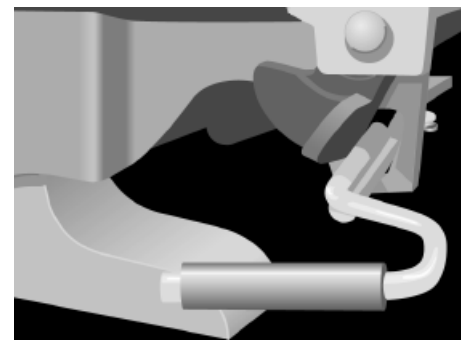

Figure 20
3. **OPEN POSITION (Figure 20)** - With the operating rod in the lockset position, the trailer may be uncoupled. Release tractor brakes and pull the tractor away from the trailer.